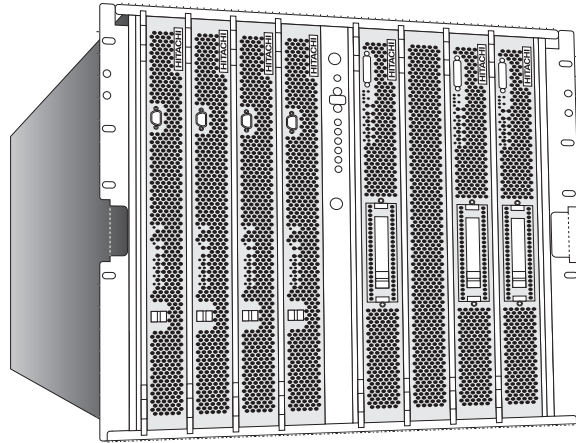

Figure 1. BladeSymphony 1000 front view
BladeSymphony 1000 (Figure 1) is the first blade system designed specifically for enterprise-class, mission-critical workloads. It is a 10 rack unit (RU) system that combines Hitachi's Virtage embedded virtualization technology, a choice of Intel Dual-Socket, Multi-Core Xeon and/or Intel Dual-Core Itanium Server Blades (running Windows or Linux), centralized management capabilities, high-performance I/O, and sophisticated reliability, availability, and serviceability (RAS) features.